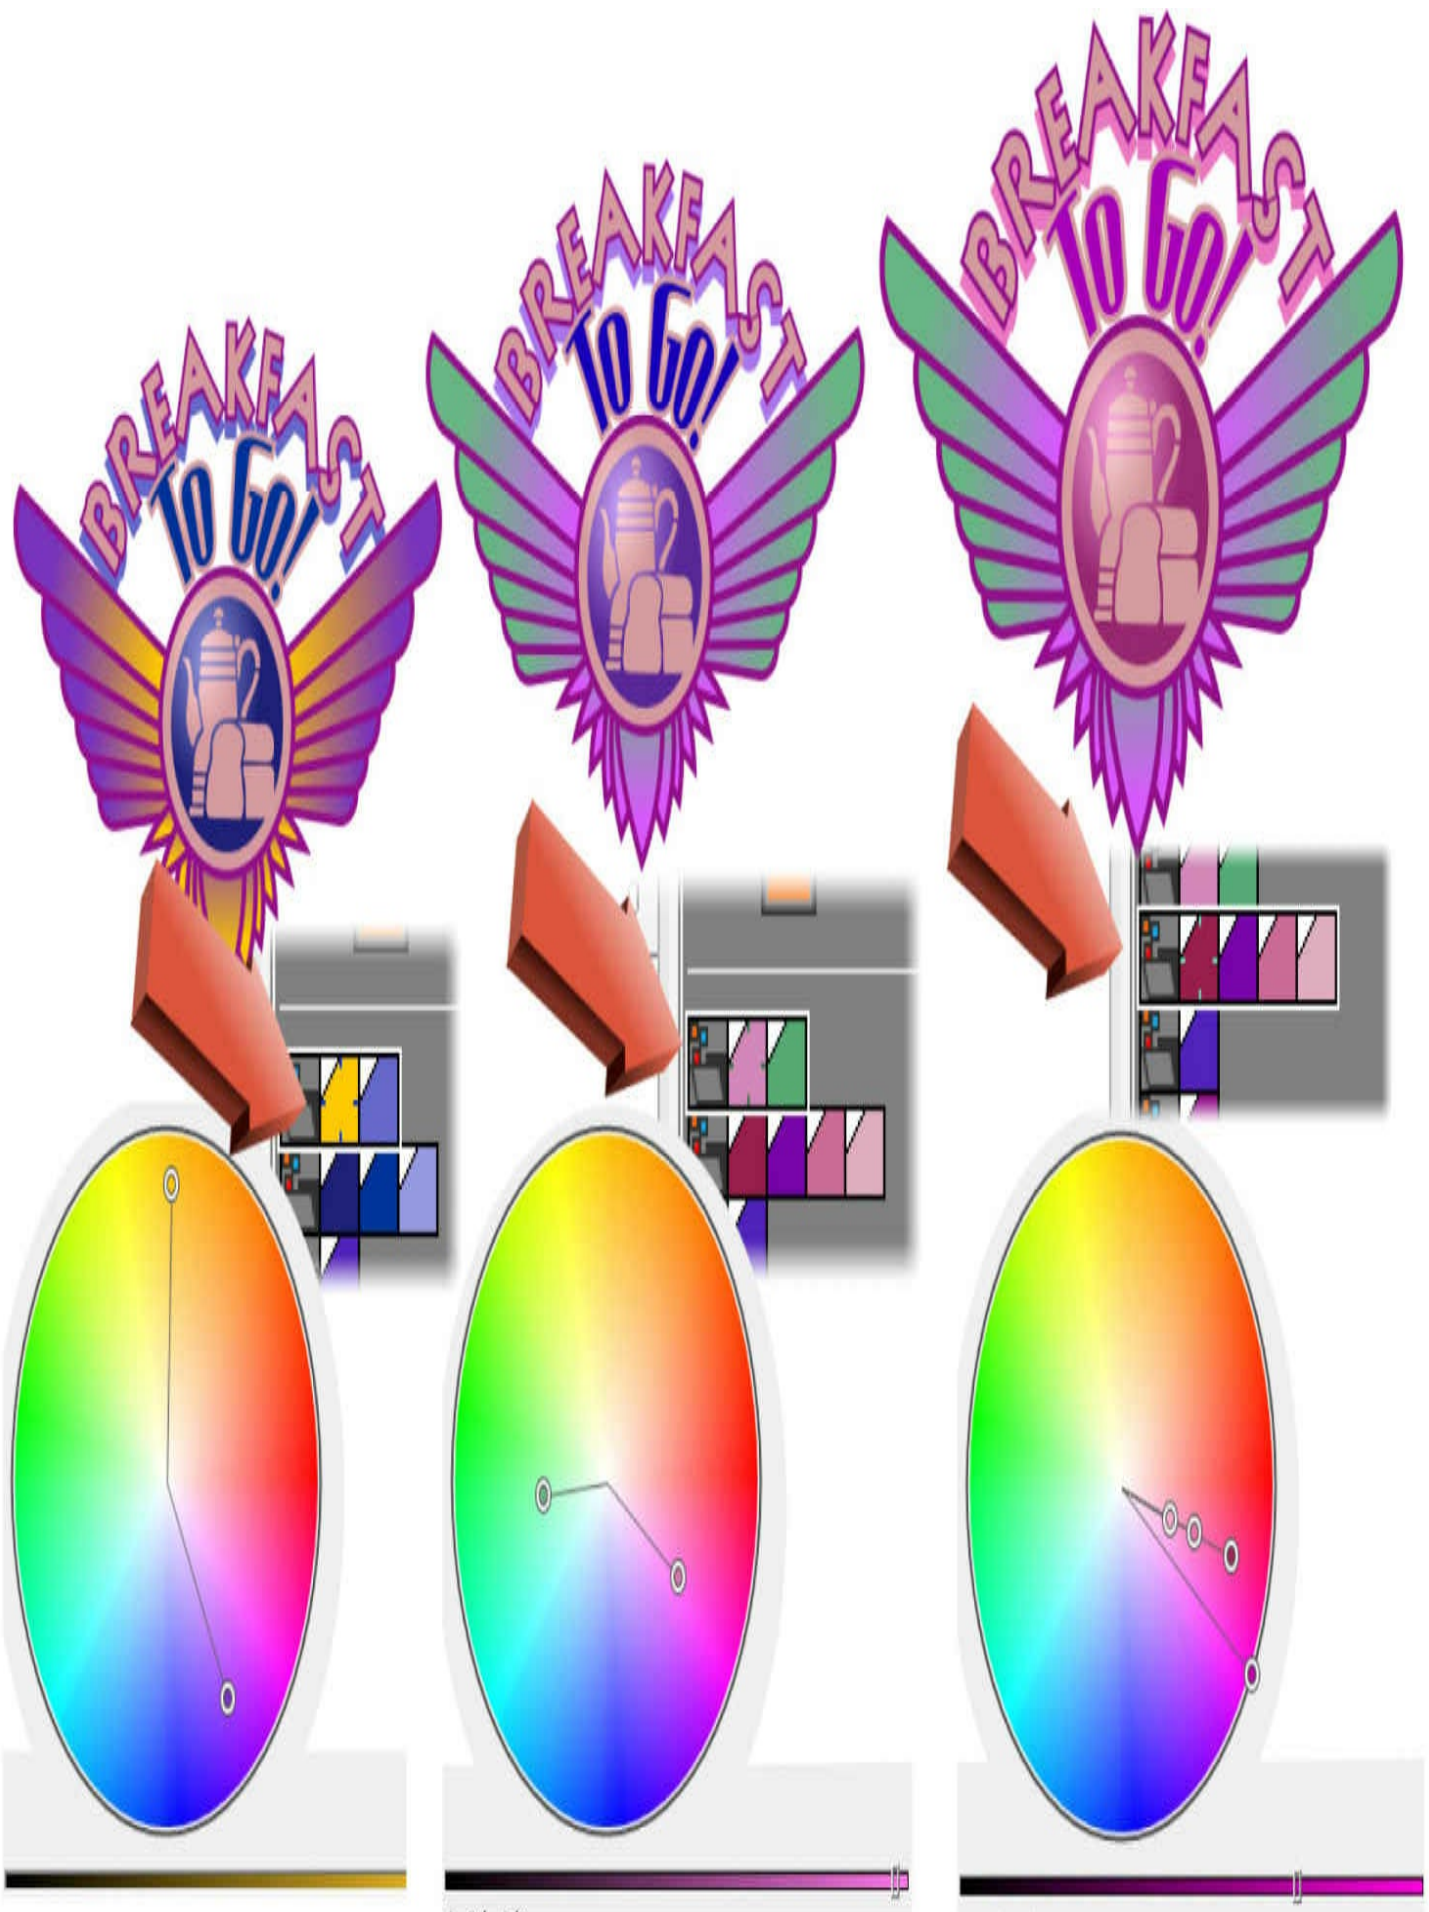

FIGURE 15-5 Changing multiple colors via harmonies can make one design look like a dozen different ones.
6. If and when you're feeling adventurous, click the second-from-top folder to select all the purples and blues in the logo, and then move any of the selected markers around the color wheel. Use your artistic judgment, and you'll experience a creative process similar to what's illustrated in Figure 15-5.